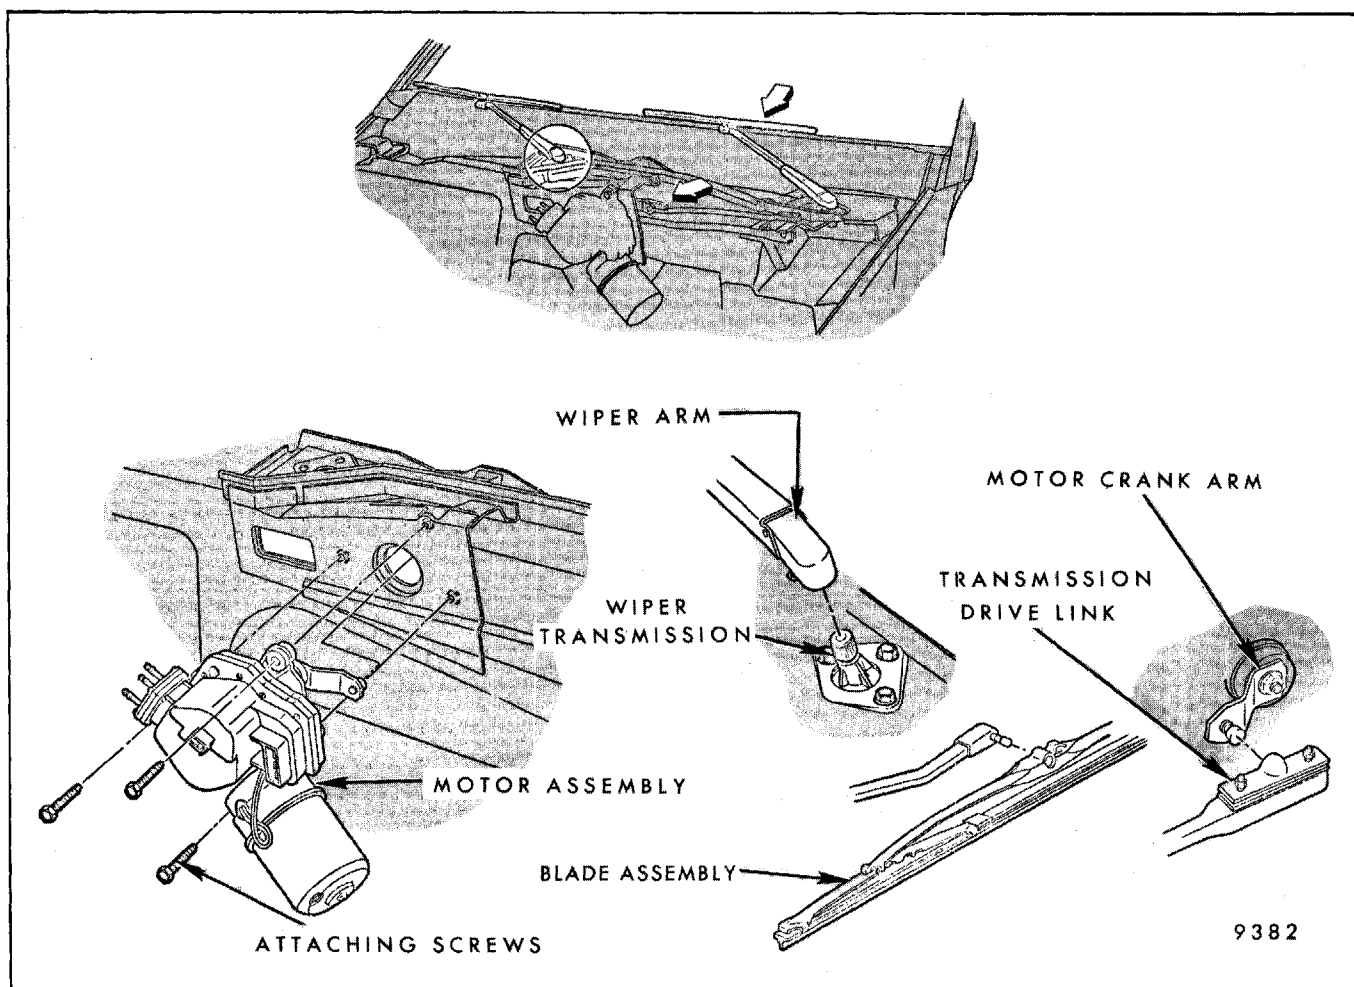

Fig. 2-53 - Round Motor Installation B, C, D Styles
3. Loosen (do not remove) attaching nuts securing transmission drive link(s) to motor crank arm (Fig. 2-53 through 2-56).
9. On A, E, F and K styles, install transmission drive link(s) to motor crank arm and tighten attaching nuts to 2.8 to 4.0 N·m (25 to 35 in-lb) torque. On B, C, D styles torque attaching nuts to 3.4 to 5.1 N·m (30 to 45 in-lb). See Figures 2-53 through 2-56.